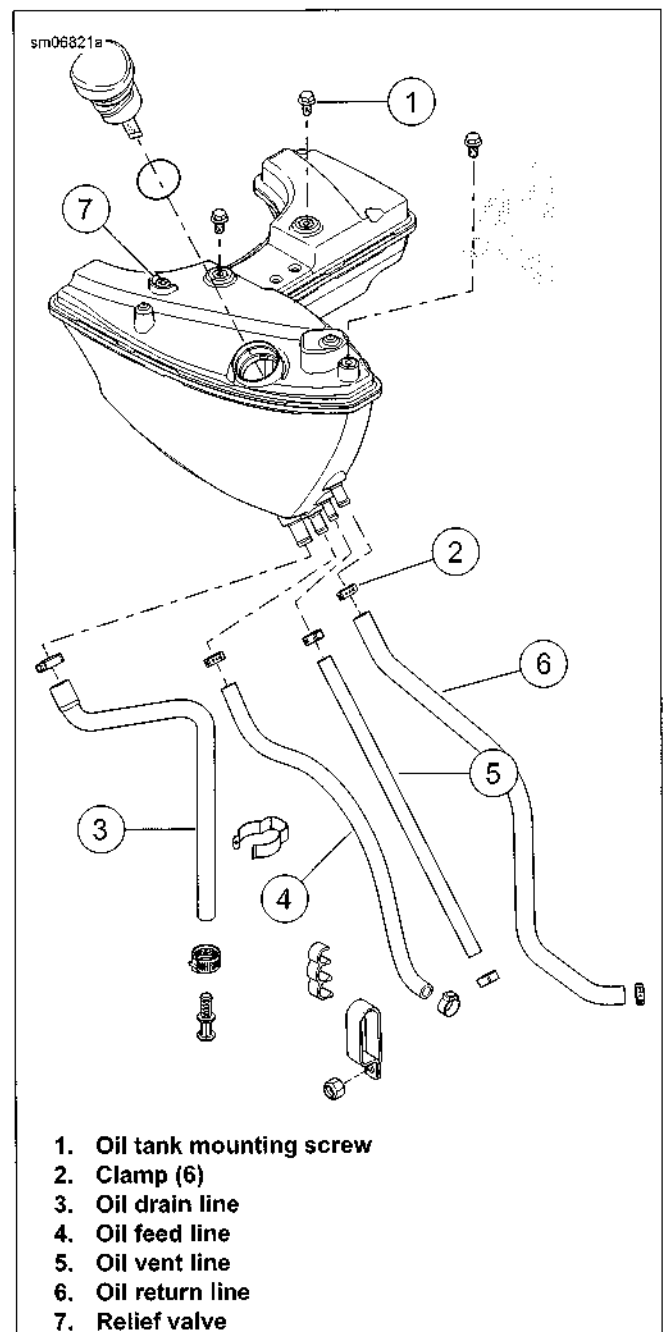

Figure 3-133. Engine Oil Tank
See Figure 3-133. The oil tank has a pressure relief valve (7) in top of tank. If vent line is pinched, restricted or if tank is overfilled, excessive pressure is created. The valve opens if pressure in tank exceeds 10 psi (68.9 kPa).
2. See Figure 3-133. Loosely install oil tank mounting screws (1).